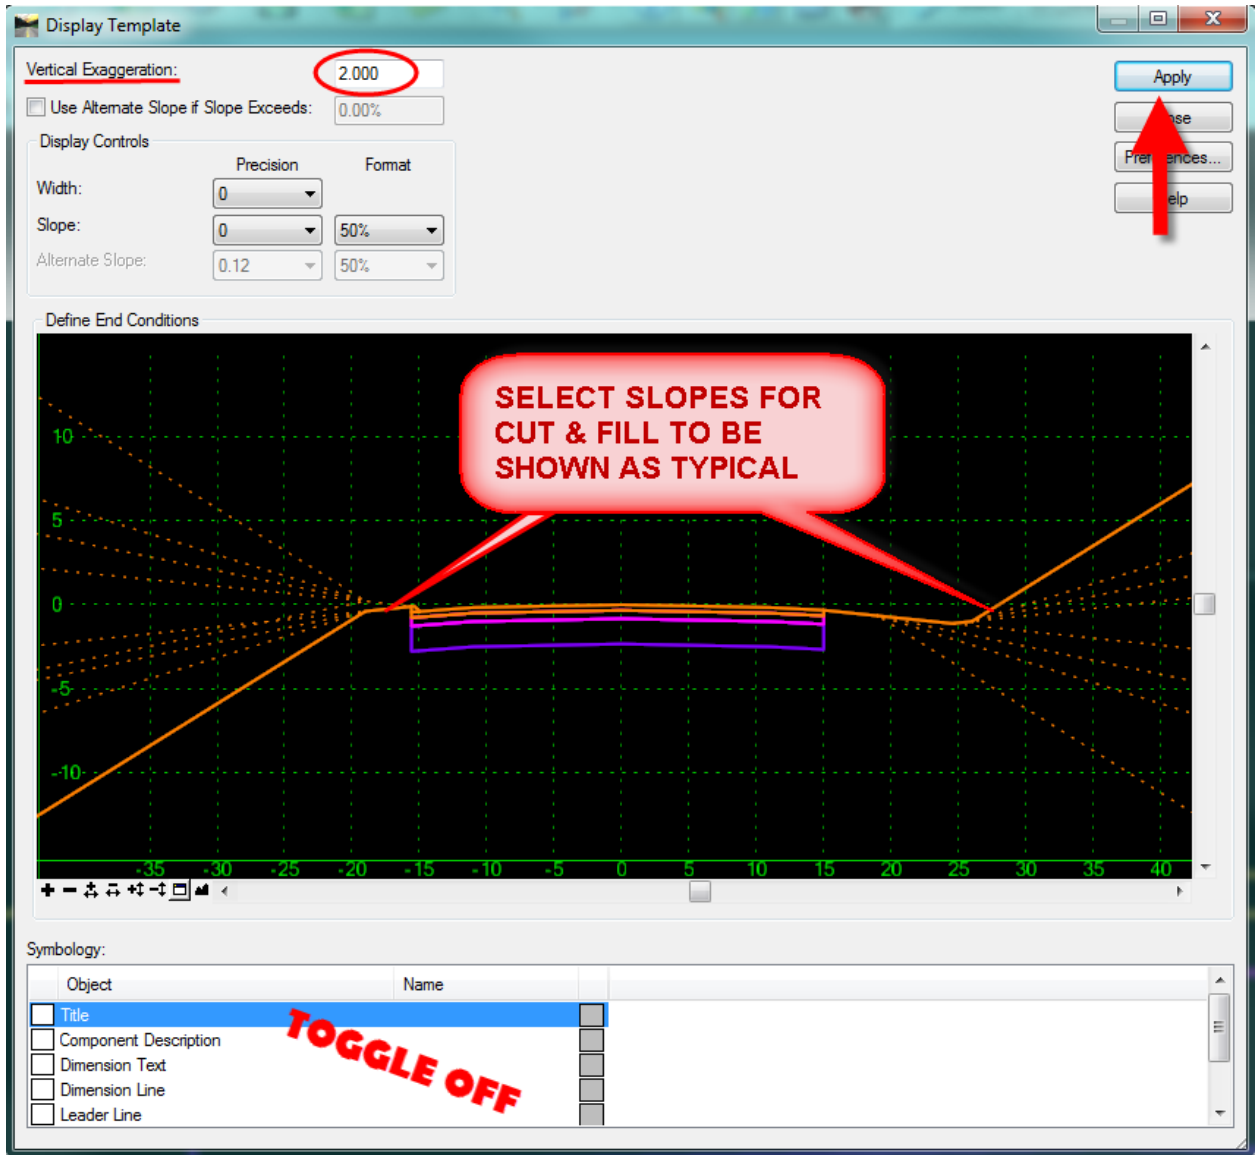

Figure 64 - Display Template
4. **Select** the vertical exaggeration you want, **Toggle OFF** Symbology, in the define End Conditions box select the Cut and Fill Slopes to be shown as typical, click **Apply**. See Figure 64.